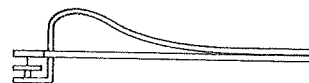

Fig. 31
Note: Carefully grasp the index wheel by its pinion, never by its rim and put pinion in plithwood to protect index wheel teeth from possible damage. Index wheel holder (page 12) can be used for cleaning. (Fig. 31)
*Index wheel holder is available through an Authorized Bulova Material Distributor. Fig. 31.